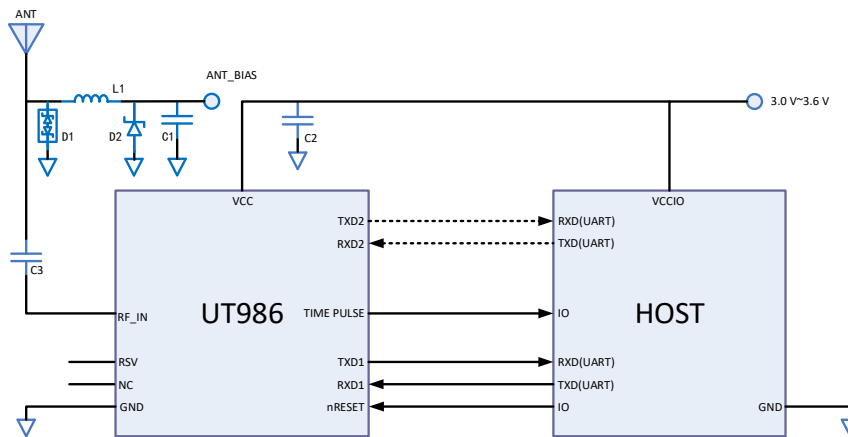

Figure 4-2 UT986 Reference Circuit
- It is recommended to use the same power supply for the VCC of UT986 and the IO of the host, so as to avoid abnormal startup caused by the IO leakage between UT986 and the host. The power supply of UT986 VCC ranges from 3.0 V to 3.6 V, and the input decoupling capacitor C2 (see Figure 4-2) needs to be more than 10 μF . Other capacitors, such as 1 μF /100 nF/ 100 pF, can be connected in parallel.